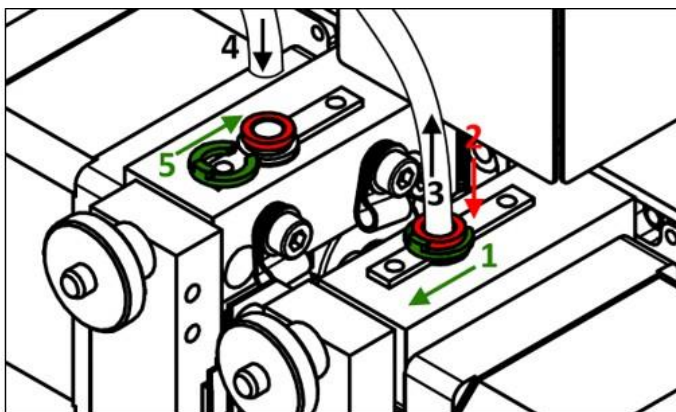

Fig. 7 Removing the supply tube from the extruder
1. When filaments are loaded, unload them using the option: *Material Status* -> *Unload filament* and follow the instructions on the printer display. For more information, refer to the printer manual (Section III, item 4.2).
2. Remove the module from the printer using the option: *Menu* → *Prepare* → *Module change* and follow the instructions on the printer display. For more information, refer to the printer manual (Section VI, item 2).
5. Remove the C-shaped lock (Fig. 7, step 1) from the connector.
6. Press the connector lock (Fig. 7, step 2) and simultaneously remove the supply pipe from the connector by pulling it up (Fig. 7, step 3).
8. Slide the supply tube back into the connector hole until it stops - about 2cm (Fig. 7, step 4), and then insert the C-shaped lock (Fig. 7, step 5).
9. Install the module in the printer. Refer to the printer's operating instructions (Section VI, item 2) for instructions on how to install the module.
10. Load filaments using the option: *Material Status* → *Load Filament* and follow the instructions on the printer display. For more information, refer to the printer manual (Section III, item 4.1).